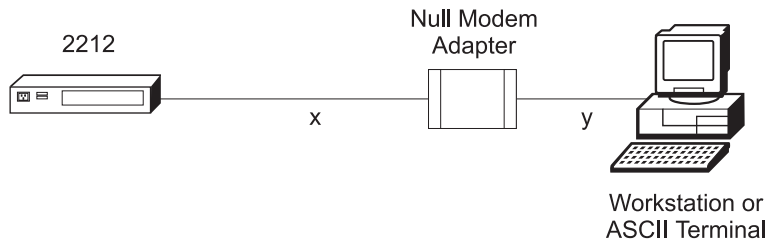
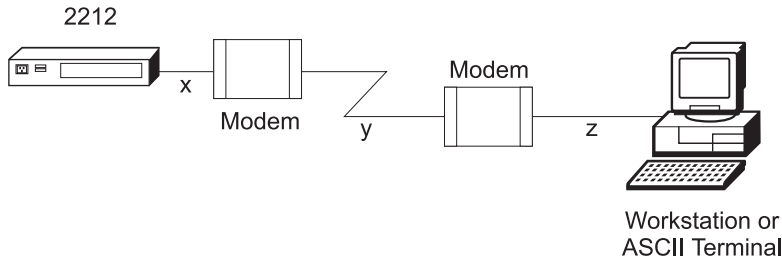

Figure 3-1. Local Terminal Connection to the EIA-232 Service Port
Figure 3-2. Remote Terminal Connection to the EIA-232 Service Port
- Remote dial-in (using telephone lines) through a modem attached to the EIA-232 service port using an ASCII or Serial Line Internet Protocol (SLIP) connection. See Figure 3-2 on page 3-2. "Modem Settings" on page 3-3 lists the modems that have been tested for use with the 2212.
- Locally through a null-modem adapter and serial cables supplied with this product that are attached to the EIA-232 service port using an ASCII or SLIP connection. See Figure 3-1 on page 3-2.
Attach an ASCII terminal or emulator (with the appropriate emulation software) to provide local or remote access to the 2212. When locally attaching a terminal to the 2212 service port, the speed (baud rate) configured for the service port must match the speed of the connected terminal (x and y in Figure 3-1 on page 3-2). When connecting a 2212 to a remote terminal by two modems connected by telephone lines (x, y and z in Figure 3-2 on page 3-2), the following rules must be followed: